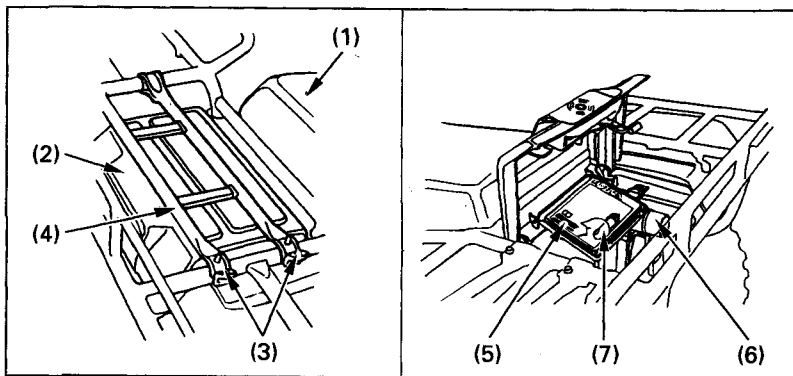

Fig. 2-23 (1) Seat (2) Storage compartment (3) Rubber straps (4) Rear rack (5) Owner's manual (6) Tool kit (7) Air pressure gauge
The storage compartment (Fig. 2-23) is behind the seat. To open the compartment, unhook the rubber straps (3) and lift the rear rack (4). The owner's manual (5), tool kit (6), and air pressure gauge (7) should be stored in the storage compartment.